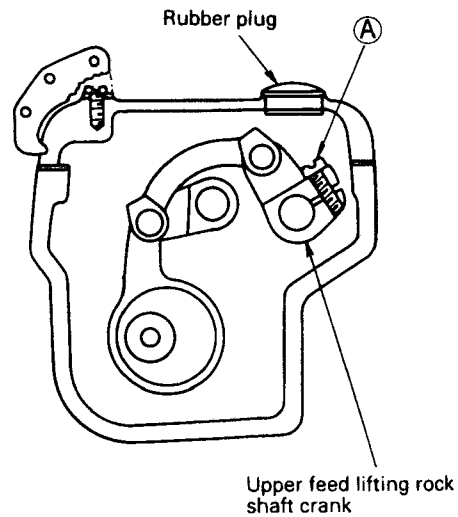

Fig.24
2) To change the balance of the alternating movements between the walking foot and presser foot (Fig.24):